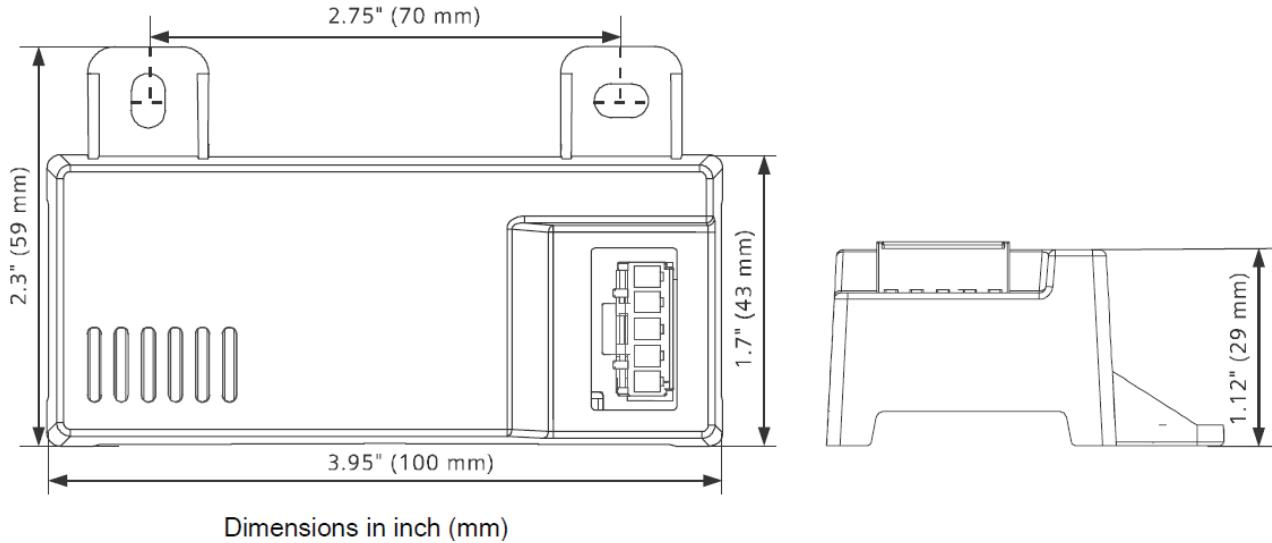
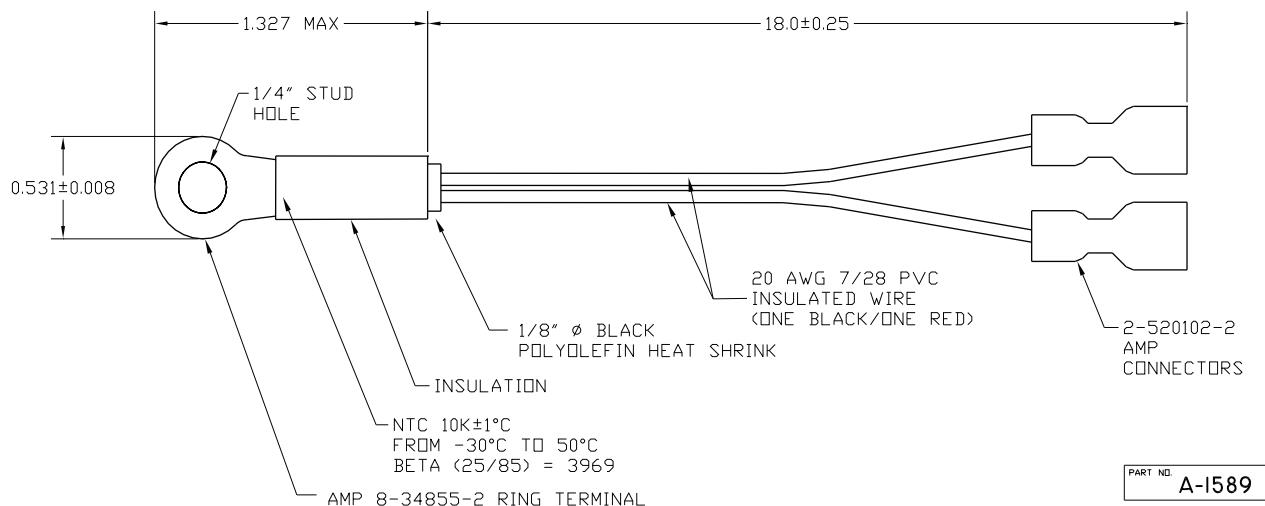
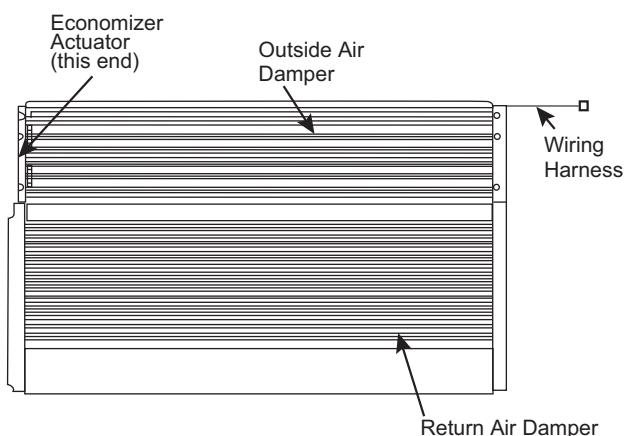

Fig. 65 — HH57LW001 Dimensional, Connection and Switching Information
Fig. 66 — HH79NZ039 Dry Bulb and Mixed Air Sensor Wiring
Fig. 67 — EconomizerONE System Component Locations
When using the HH57LW001 enthalpy sensor (see Fig. 65) for outside air changeover, the existing HH79NZ039 dry bulb sensor (see Fig. 66) must be removed. The enthalpy sensor will be mounted in the same location as the dry bulb sensor (see Fig. 67). When the enthalpy sensor's OA (Outside Air) temperature, enthalpy, and dew point are below their respective set points, outside air can be used for free cooling. When any of these are above their set point, free cooling will not be available. Enthalpy set points are configurable and create an enthalpy boundary according to the user's input. For additional details, see Fig. 68-69 and Table 26.
The optional enthalpy control sensor (P/N: HH57LW001) communicates with the POL224 economizer controller using the 5-wire harness, 48TC005213. The HH57LW001 sensor can be used as a single outside air enthalpy, a differential return enthalpy, or a differential return temperature sensor. Refer to the base unit control wiring diagrams found earlier in this book to wire the HH57LW001 enthalpy sensor for each option. See Fig. 65 and Table 28 on page 48 to locate the wiring terminals for each enthalpy control sensor.
Economizers are shipped standard with an HH79NZ039 outside air dry bulb sensor (refer to Fig. 66). System default setting (high temp limit) is 63°F (17°C) and has a range of 48°F to 80°F (9°C to 27°C). Sensor is factory installed on economizer.
If installing the optional HH57LW001 enthalpy sensor, the HH79NZ039 dry bulb outside air sensor must first be removed. Wire sensor to harness 48TC005213 and the (5) wires from the harness to the EconomizerONE harness in the return air chamber. Harness 48TC005213 has a 5-pin plug that connects directly to the HH57LW001 enthalpy sensor. Refer to the base unit control wiring diagrams earlier in this book for wiring connections. Refer to Fig. 65 and see Table 28.